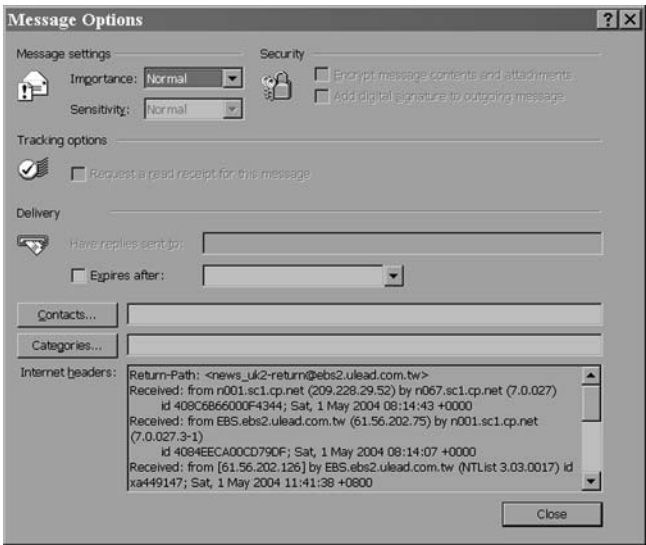

Figure 11.2 Using the Message Options panels of Outlook to examine message source and contents
- If you want more information, right-click on the header, and then left-click on *Options*, which will result in a panel of information, Figure 11.2. This may be more information than you particularly want but at least it should give you some idea of what the message is about and whether or not it is something you want to get into. Look in particular at the section headed Internet headers, because that contains a line that starts content type and this will state text/HTML or other information that would indicate more than a simple text message.